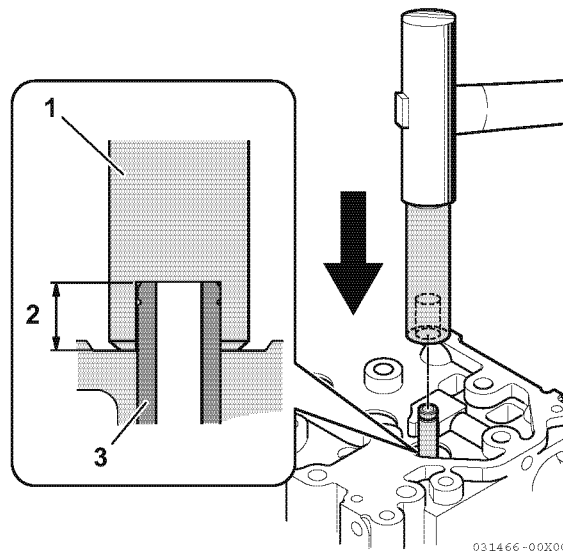

Fig.14-32
3. Using a valve guide inserting tool (1, Fig.14-32), attach the valve guide (3, Fig.14-32) to the cylinder head with the reference valve guide protrusion amount (2, Fig.14-32). For reference protrusion amount, see 0000-07-01-01 "Cylinder Head Specifications".